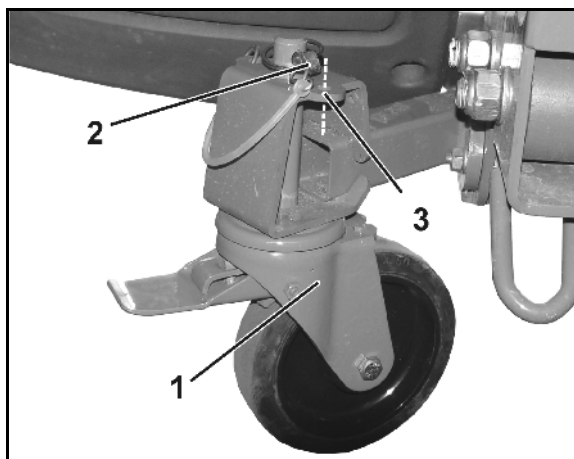

Fig. 26
To prevent the fertiliser spreader from rolling, the 2 guide rollers are equipped with an immobilisation system (Fig. 26/1).
5. Steerable brake rollers at front (Fig. 26/1)
- o Install and secure with clip pin (Fig. 26/2), or
When the transport rollers are not in use, secure the clip pins in the parking position (Fig. 26/3).